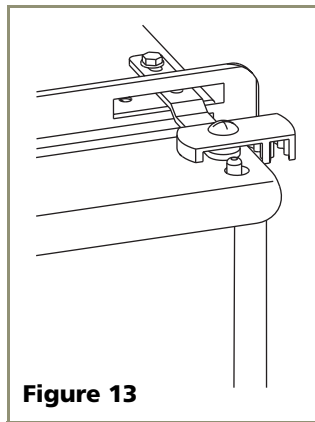

Figure 13
13. Gently slide travel pin assembly through flange and then fasten to unit. Make sure travel pin in door engages the closer in the assembly, then tighten screws on travel pin assembly securely. See **Figure 13**.